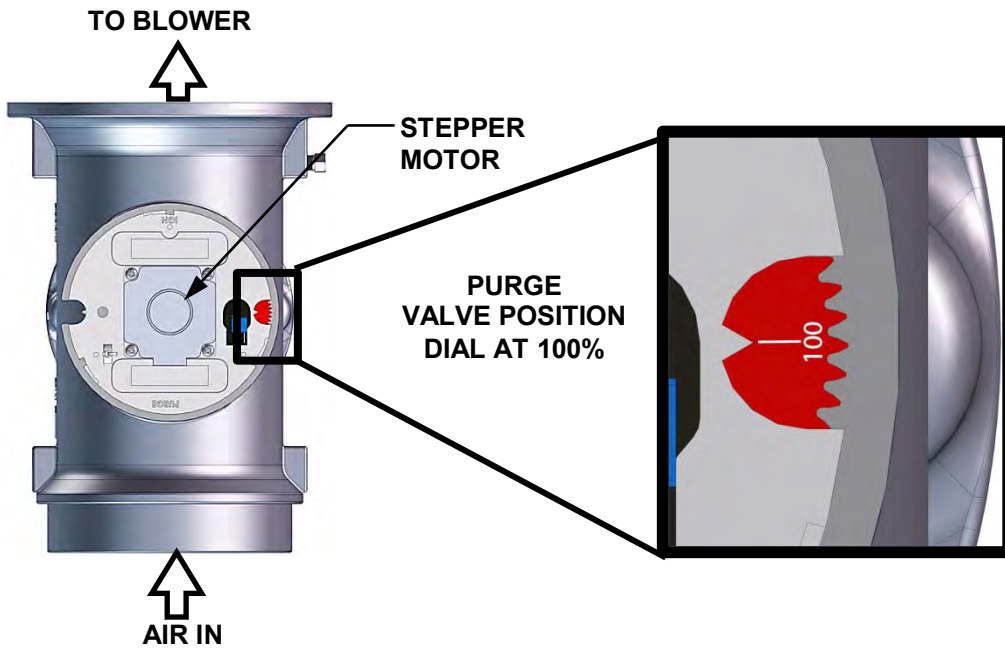

Figure 3-4: Air/Fuel Valve In Purge Position
- b. The Air/Fuel Valve rotates to the full-open purge position and closes purge position switch. The dial on the Air/Fuel Valve (Figure 3-4) will read 100 to indicate that it is full-open (100%).